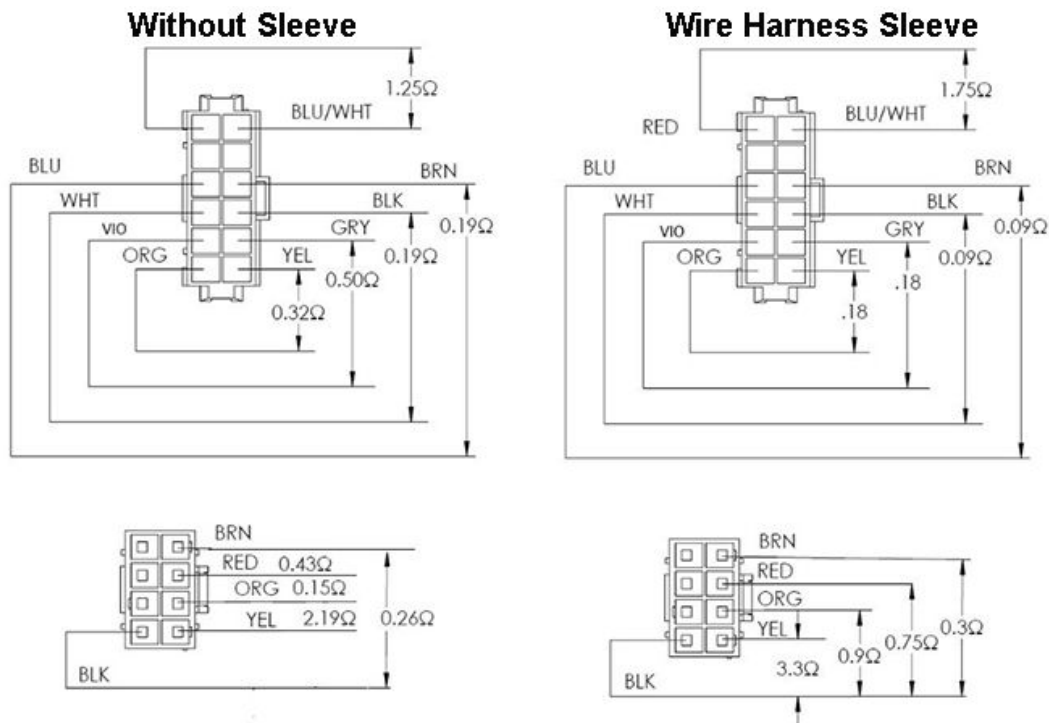

Fig. 120
3. Verify resistance is $\pm 10\%$ for each reading. Refer to Fig. 120.
There are two types of transformers, one with a wire harness sleeve and one without. Use the proper diagram for the transformer you are servicing in Fig. 120.